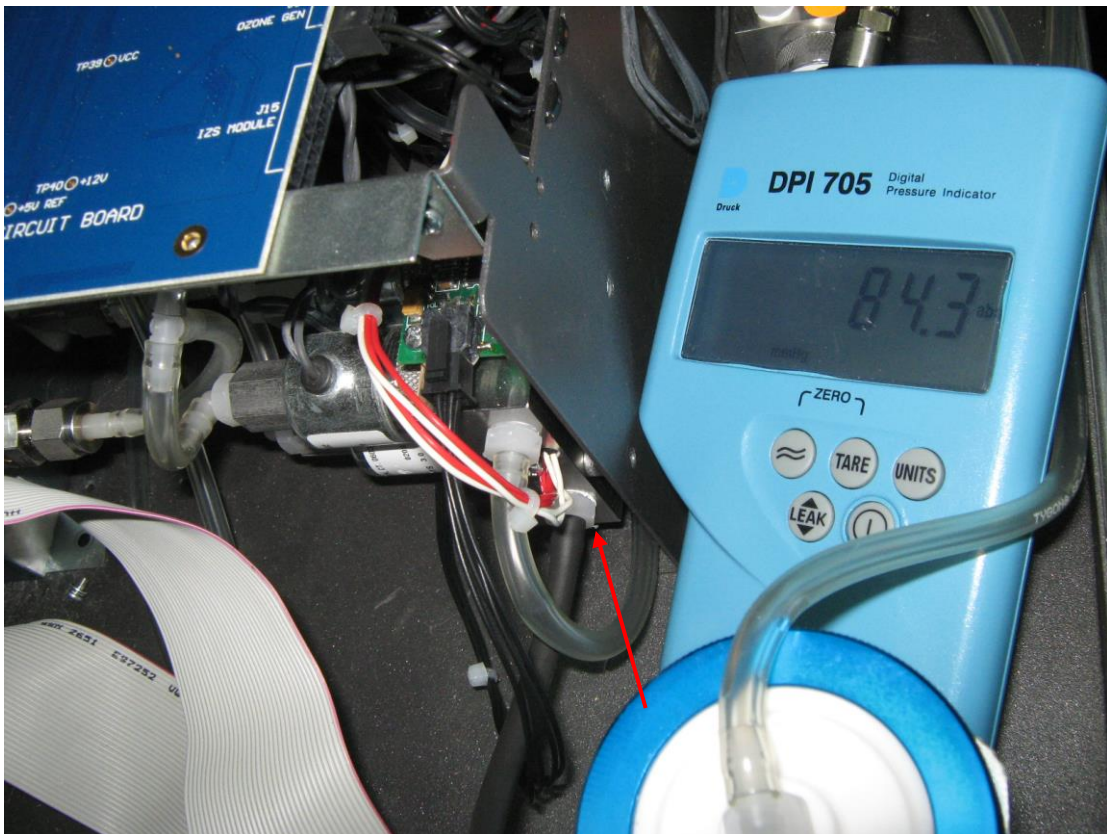

Figure 43 – Position of barometer placement (valve manifold)
5. Disconnect the tubing connecting the valve manifold to the ozone generator and connect the barometer on the valve manifold ozone inlet port (see Figure 43).